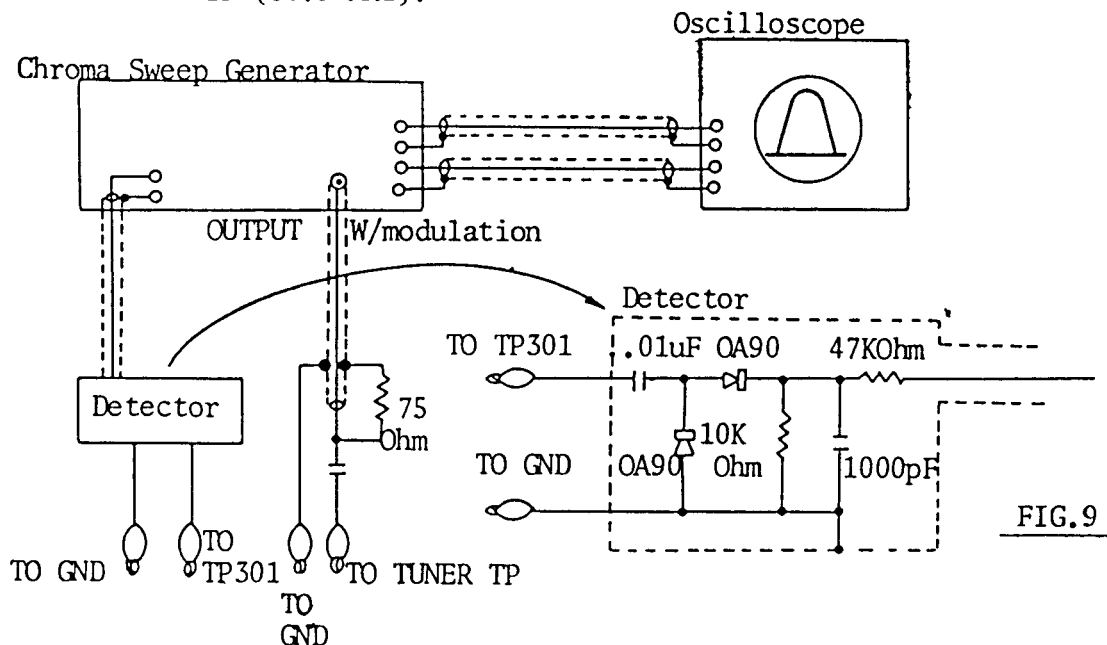

FIG.9
A. PREPARATION STEP (See Fig. 9)